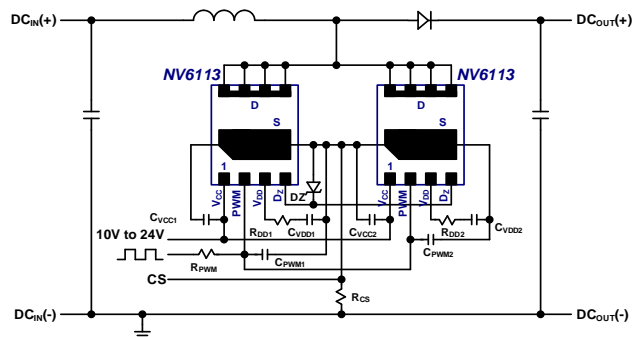

Fig.25. Boost schematic using two parallel ICs
For some applications it is desirable to parallel ICs in order to reduce conduction losses and temperatures. Two GaNFast power ICs can be connected in parallel in a PFC boost application working in boundary-conduction mode (BCM) only. This configuration is shown in Fig.25. The paired pins that are connected together include the drain pins (D), the source pins (S), the V_{CC} pins, the PWM pins, and the D_z . A single D_z diode can be shared by both ICs. The V_{DD} pins are not connected together and require separate V_{DD} supply capacitors (C_{VDD1} , C_{VDD2}) and separate turn-on current set resistors (R_{DD1} , R_{DD2}). Each IC should have its own local V_{CC} supply filter capacitor (C_{VCC1} , C_{VCC2}). The PWM pins can have a single filter resistor (R_{PWM}) but separate filter capacitors (C_{PWM1} , C_{PWM2}) should be placed at the PWM pin of each IC. When designing the PCB layout for the two paralleled ICs, the drain and source connections should be made as symmetrical as possible to avoid any parasitic inductance or capacitance mismatch. A proper PCB layout example for paralleling is shown in Section 11.